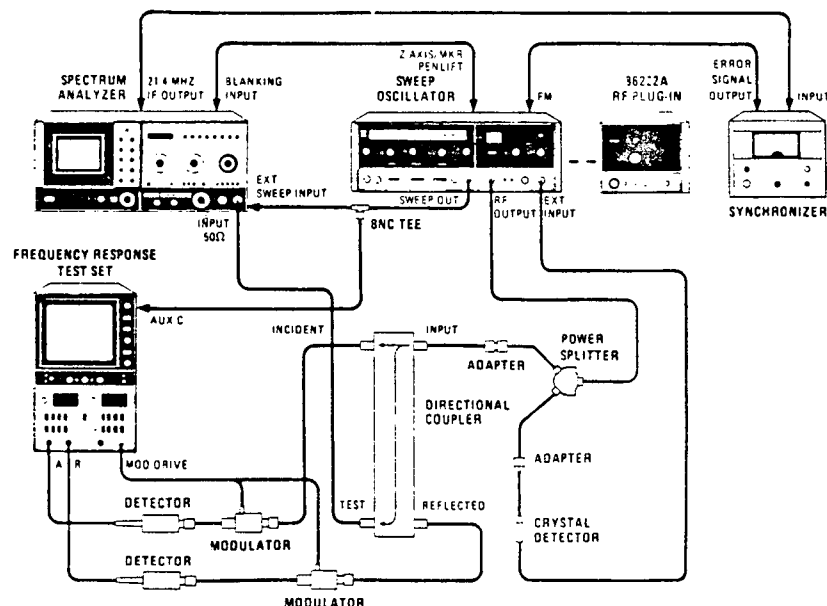

Figure 4-30. Input Impedance Test for Preselected Bands
10. Remove .01 to 2.4 GHz RF plug-in from sweep oscillator mainframe and replace with 2 to 22 GHz RF plug-in. Select band 4 (2.0-22 GHz on HP 8620C Sweep Oscillator). Connect equipment as shown in Figure 4-30 with 777D Opt H18 coupler setup.